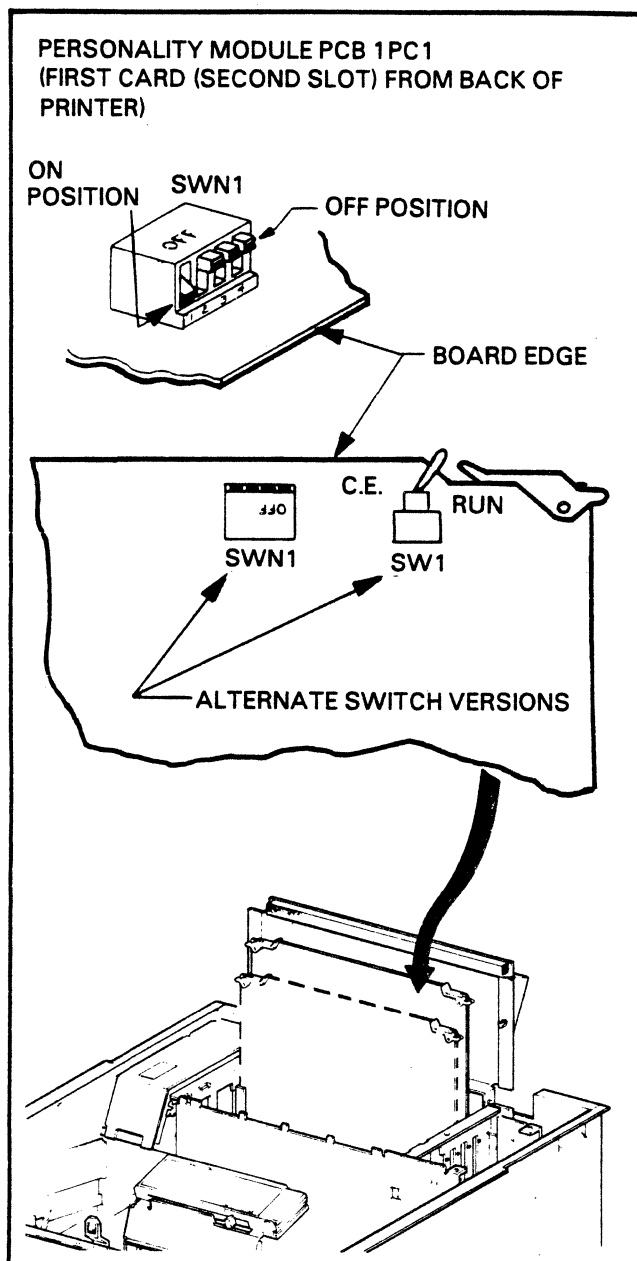

FIGURE 1-3. RS-232 PERSONALITY MODULE (1PC1) SWITCHES
9. Options are installed by performing steps 9a thru 9g. Install the options at this time. Either of two switch types may be installed on card 1PC1; SW1 or SWN1. Only the first switch (switch 1) is used on SWN1, refer to Figure 1-3. Install the options as follows:
- a. Open the Card Cage Cover and set SW1 (or SWN1-1) on card 1PC1 to "CE" position (or "OFF" for SWN1-1), refer to Figure 1-3.
- g. Set SW1 (or SWN1-1) on card 1PC1 to "RUN" (or "ON" for SWN1-1) position, refer to Figure 1-3.
- a. Set SW1 (or SWN1-1) on card 1PC1 to "CE" (or "OFF" for SWN1-1) position, refer to Figure 1-3.